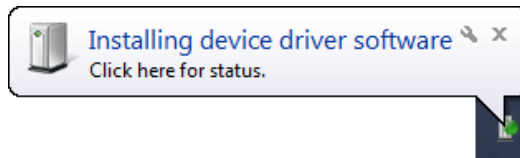

Fig. 7
- b) The installation will proceed automatically and the status can be found on your system tray (Fig.7).